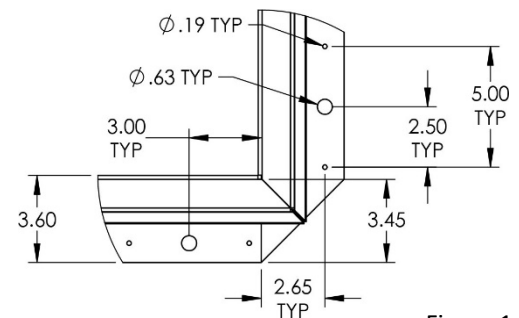

Figure 1
2. The roof hatch curb flange comes with two (2) types of mounting holes to accommodate multiple fastening methods practiced and accepted at a local level.
- a. Mark the pre-drilled diameter holes from the mounting flange through the roof deck or a concrete curb. Reference table below for hardware and placement. Drill for installation of anchors or other fasteners (provided by others). Bolt or otherwise fasten roof hatch curb flange to roof deck, figure 1.